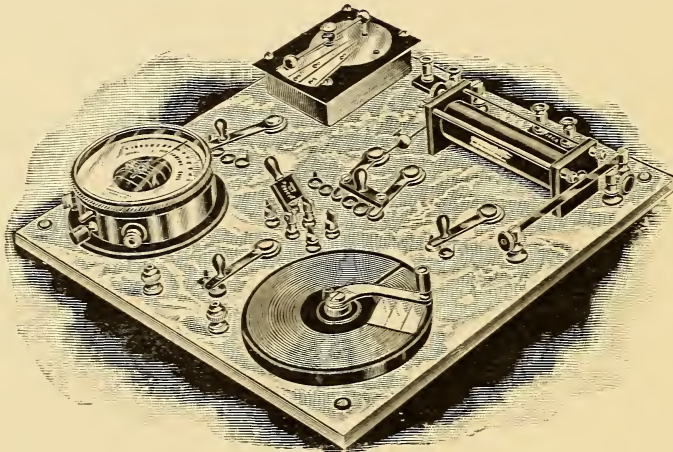

FIG. 2. PHYSICIAN'S SWITCHBOARD.
faradic switchboard are: (1) the induction coil; (2) the milli-ampere-meter; (3) the rheostat; (4) the rheotome. All these terms have been explained in our first lesson. In addition to the parts mentioned there are switches to control the primary and secondary faradic current, the galvanic current, the milli-ampere-meter and the rheotome. The rheostat is usually in the circuit of whatever current is used. Two binding posts for the patient complete the equipment of the switchboard. Some faradic coils have two circuit-breakers, one at each end of the helix, for very rapid or only ordinarily fast interruption. The appearance of the ordinary switchboard is shown in Fig. 2.